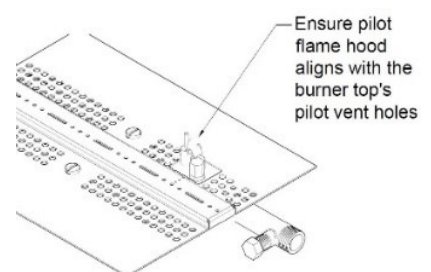

FIGURE 46
- 12) Mount the pilot assembly to the removed burner pan using the screws provided with the pilot assembly. Be careful not to kink the pilot assembly tube as it can severely damage the pilot tube. **(Figure 46)**